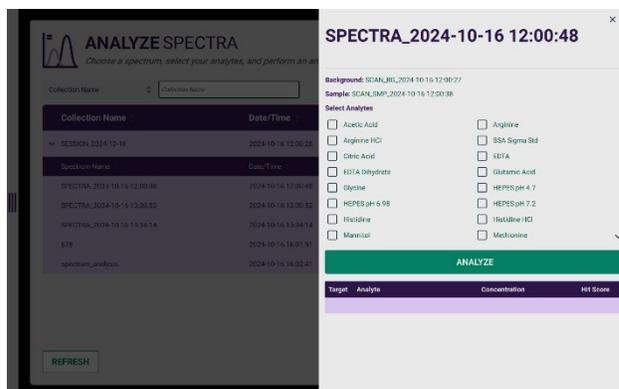

Figure 15. Select all Analytes in the sample for analysis and hit ‘Analyze’ to review quantitative results.
3. Each sample can be analyzed by selecting that file and selecting all the analytes in your sample for quantitative analysis (Fig. 15). Click “Analyze”. Concentration units can be changed once the file is analyzed. e.g. mg/mL, %, or mM, as applicable.